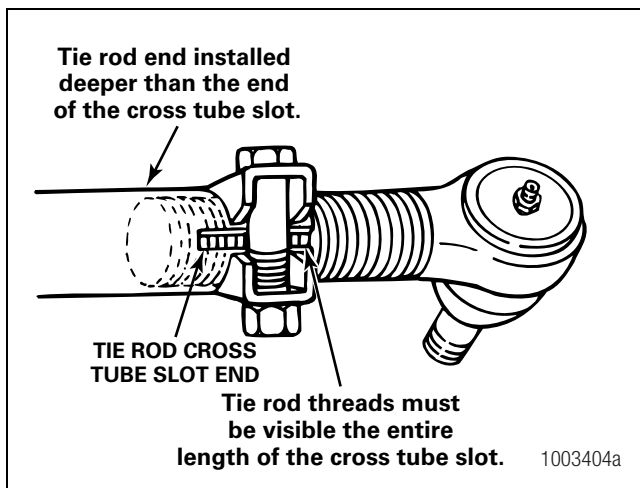

Figure 5.13
7. Check that the tie rod end is threaded correctly into the cross tube and installed deeper than the end of the cross tube slot. The tie rod end must be visible the entire length of the cross tube slot. Figure 5.13.